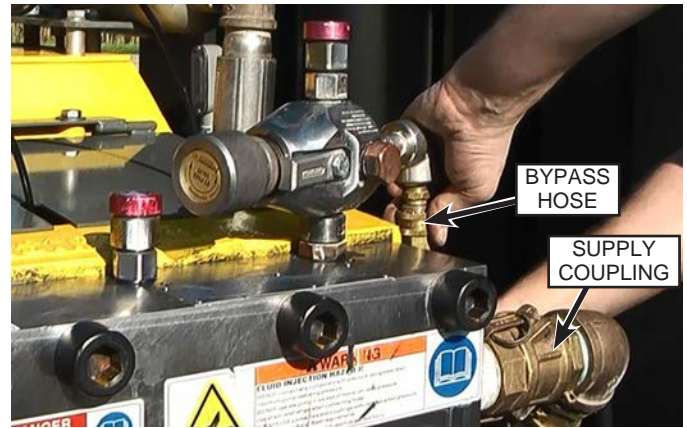

Fig. 60: Hose Connections
24. Connect the supply coupling (Fig. 60) and the bypass hose to the manifold.